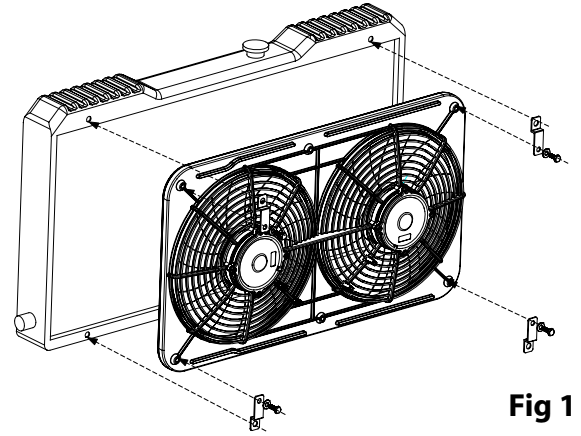
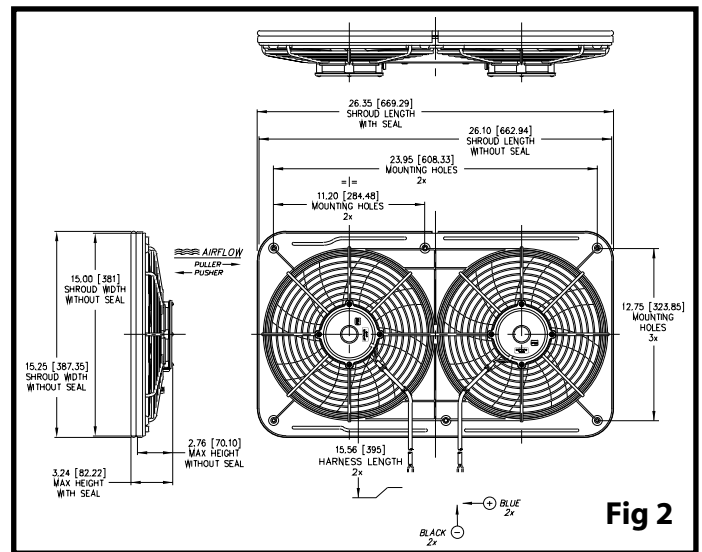

Fig 1
Fig 2
2. We do not recommend the use of nylon tie kits or any other "through core" mounting methods for this fan assembly. The 130 watt motors used in this dual fan assembly are too heavy and produce too much starting torque to be supported by the radiator fins. We recommend purchasing a prefabricated mounting kit **MARADYNE® MFA107** or fashioning metal brackets that will attach to at least four of the six 1/4 - 20 nylon reinforced nuts pressed in the back of the shroud and then bolted to the U-channels of the radiator/heat exchanger (See Fig 1.). 1" X 1/4-20 bolts are recommended to attach the brackets to the shroud. Bolts must **NOT** be long enough to contact the radiator/heat exchanger. See Fig 2 for bolt pattern.